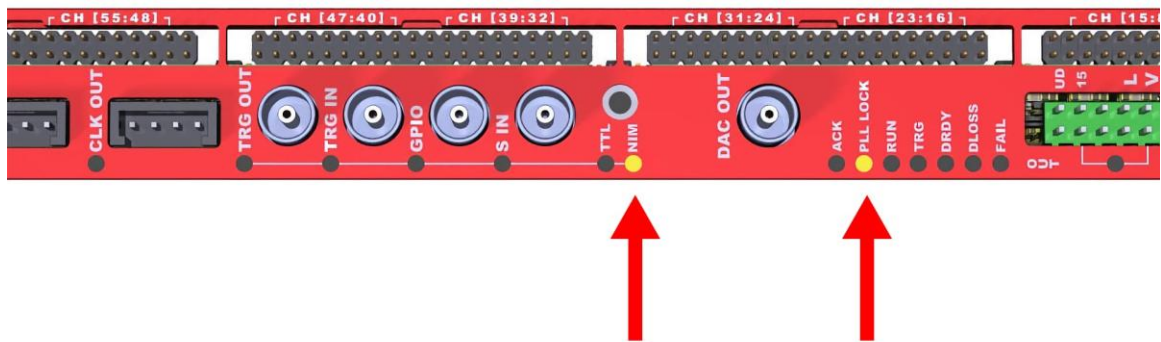

Fig. 8.3: LED status after power-on
- Only NIM and PLL LOCK LEDs must stay on (see **Fig. 8.3**).